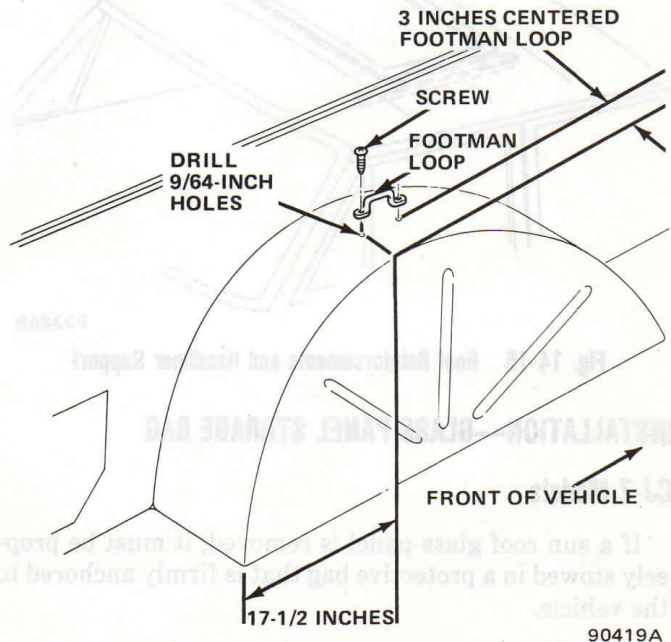

Fig. 14-20 Footman Loop Location—Cherokee-Wagoneer Models
(1) Refer to figure 14-20 for installation location of footman loops. Mark screw hole locations, centerpunch and drill 9/64-inch diameter holes. Use care when drilling to prevent twisting carpet into drill bit.